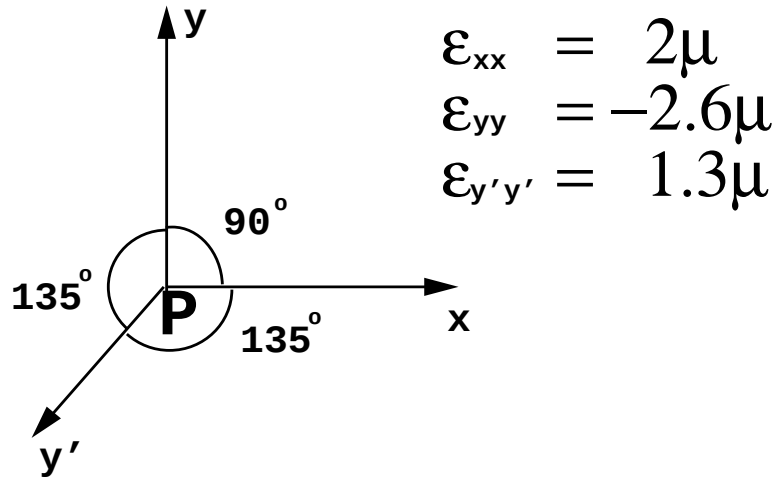

Figure 1: Problem 1
1. **(25pts)** The normal strains at a point P along directions 1,2 and 3 on the planar surface of a linearly elastic thin plate with Young's modulus of elasticity $E = 200GPa$ and Poisson's ratio $\nu = 0.3$ are measured as shown in Figure 1. Note that due to Poisson effect there may exist strain orthogonal to the xy plane.